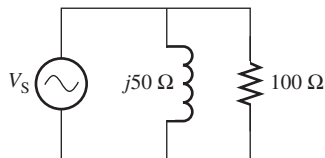

FIGURE P6.58 Circuit for Problem 6.58.
- 6.58** (B)* Determine the average power, reactive power, and apparent power generated by the resistor for the circuit in Figure P6.58 with the voltage source $160\angle 30^\circ$.